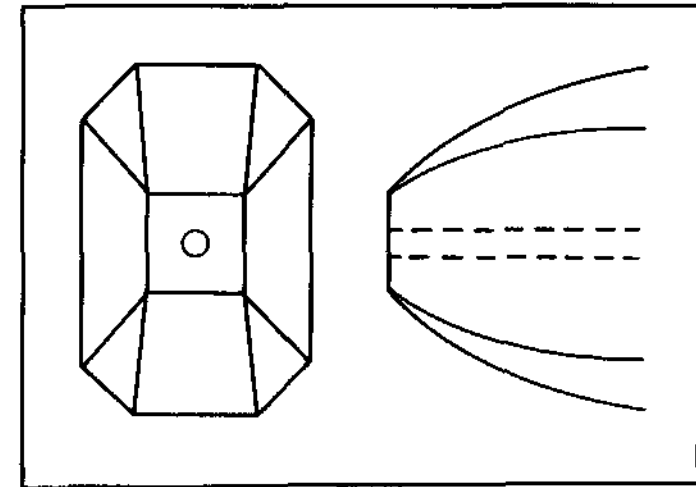
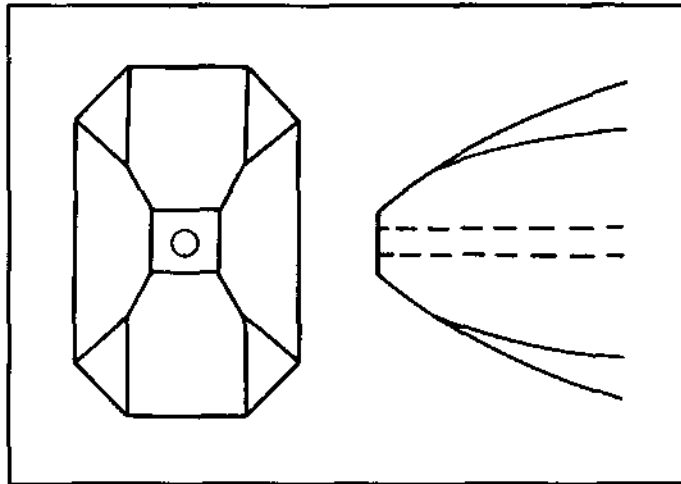

Figure 3. Apex of blank as received in the kit (before shaping).
Figure 4. Apex of blank after completing step 3.
**STEP 3** The apex of the blank as you received it will be similar in appearance to that shown in Figure 3. Carefully remove wood from the face, back, and two sides of the blank until all four surfaces are gradually and uniformly tapered to within 1/16th inch of the tube hole as shown in Figure 4. There are three critical areas:
- (1) Don't remove too much wood from around the tube hole. There should be a rim of wood which will be bluntly rounded later.
- (2) Make the taper to the tube hole gradual so that there is an even curvature from the face, back, and sides.
- (3) As much as possible, keep the curvature of the sides, and the curvature of the face and back similar so that the apex of the blank is symmetrical in appearance.